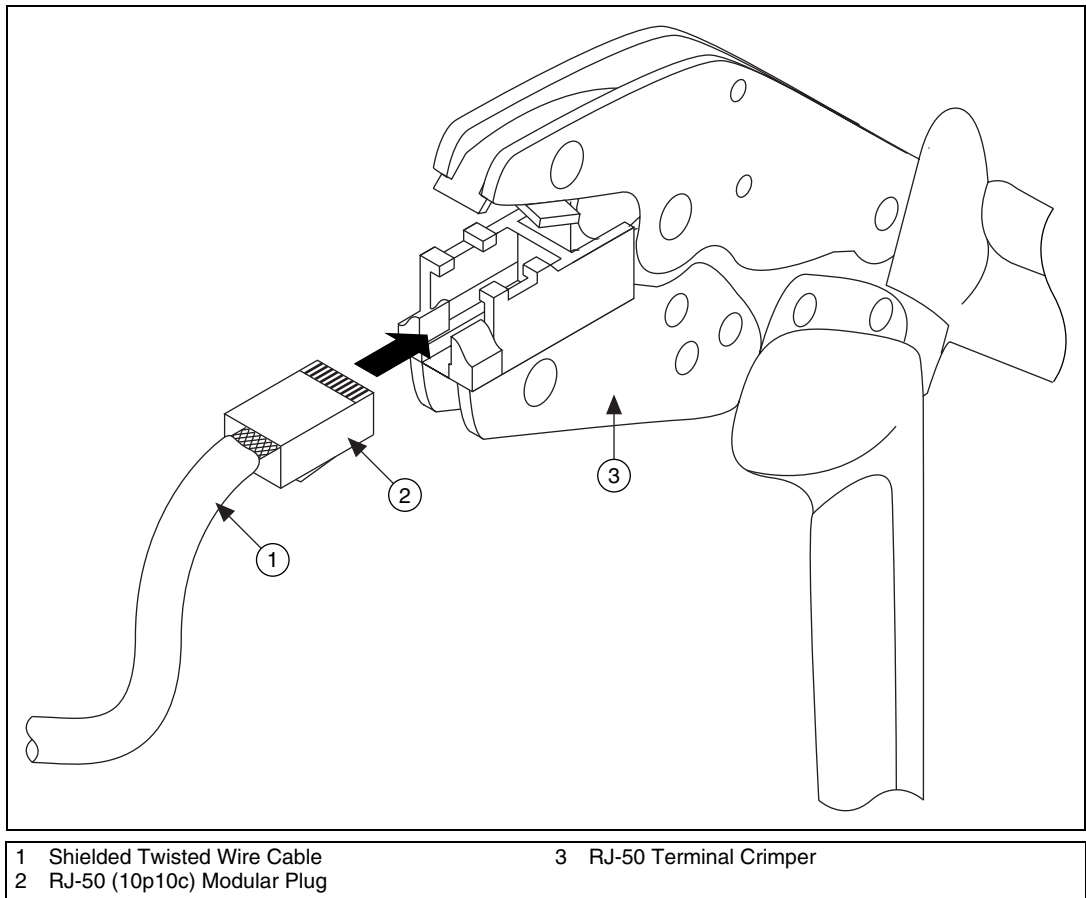

Figure 8. Crimping the RJ-50 (10p10c) Modular Plug
7. Crimp the terminal using an RJ-50 terminal crimper as shown in Figure 8.